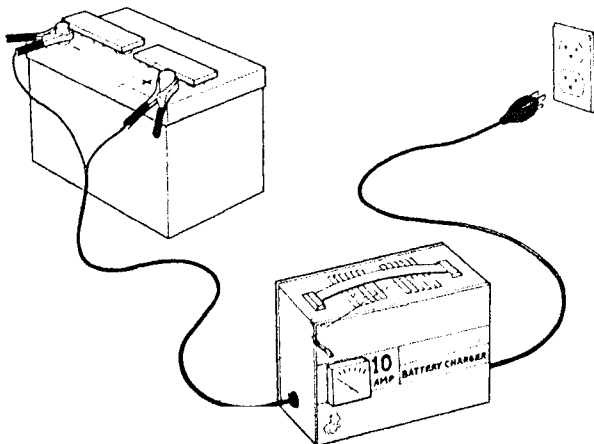

Figure 19
Do not connect or disconnect battery and charger while charger is plugged into 110-120 VAC wall outlet because a spark could possibly cause the battery to explode. Therefore, pull charger plug out of wall outlet before connecting or disconnecting charger from battery (Fig. 19).
1. Charge the battery. Using a 6 to 10 amp charger (Fig. 19), charge battery according to the instructions supplied by the manufacturer of the charger. "Quick charging" the battery is not recommended.